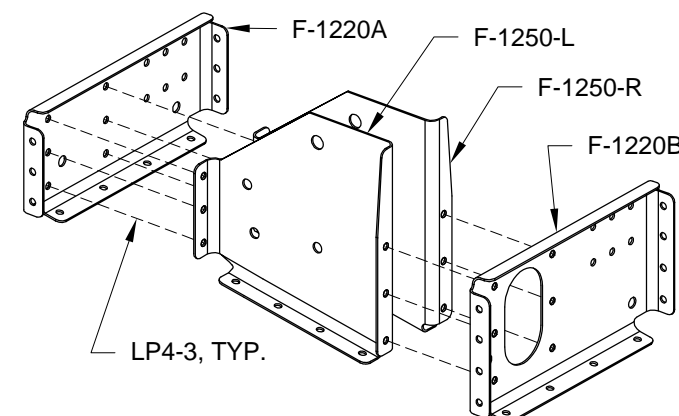

FIGURE 3: RIVETING PULLEY BRACKET ASSY
Step 7: Rivet F-1250-L & -R to F-1220A and F-1220B using the rivets called out in Figure 3. Set aside for now.